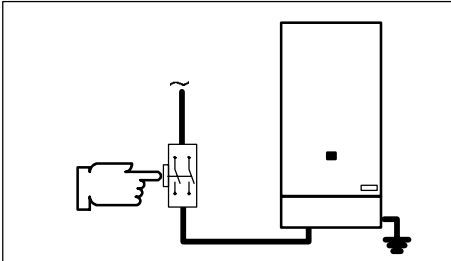

fig. 3.1
- a multi-way switch, with a gap of at least 3 mm between the contacts (fig. 3.1) must be installed near to the boiler. Refer to section 3.6 in this chapter for the electrical connections.